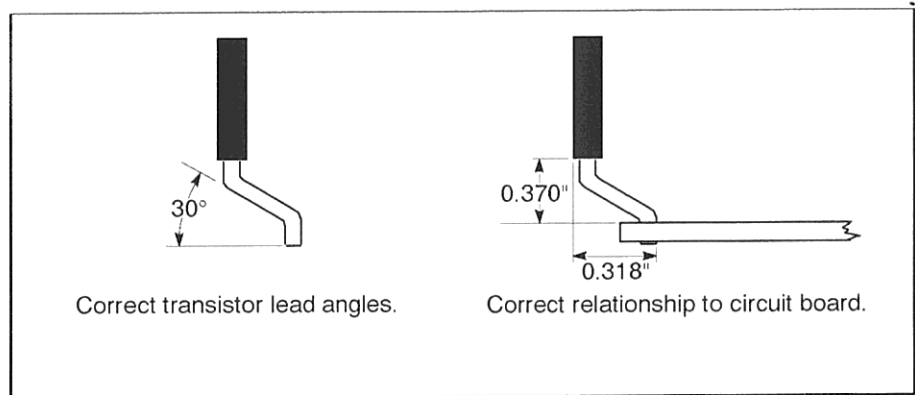

Figure 3-1: Series pass transistor replacement (actual size)
3. Carefully bend the new transistor leads according to the dimensions in Figure 3-1. The illustration shows the actual size of the leads so that you can physically compare the lead angles.